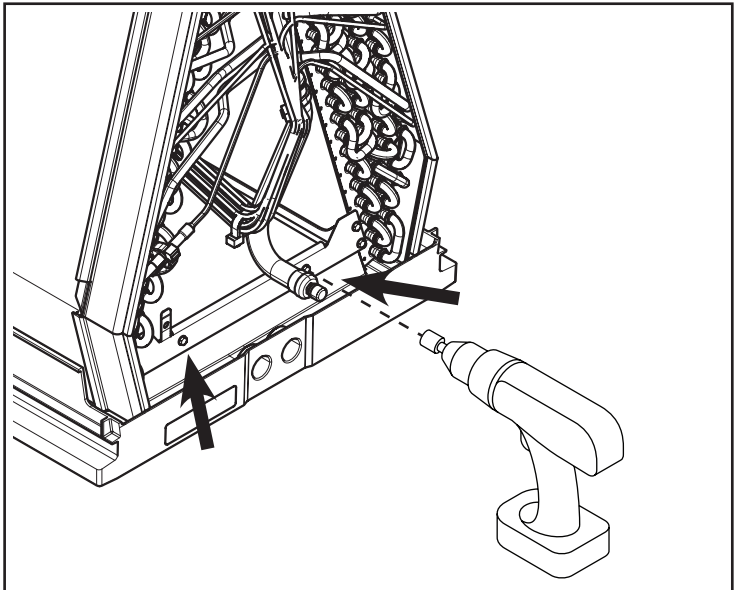

Figure 10 – Remove downflow drain pan
12. Remove the down flow drain pan by removing four screws as shown in Figure 10. Lift the coil from the downflow drain pan. Keep the drain pan and four screws.